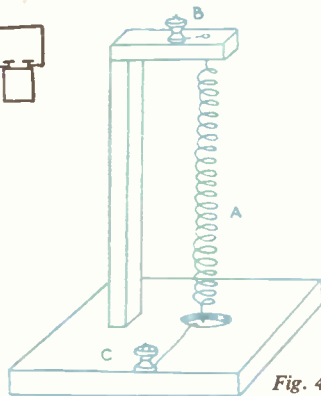

Fig. 4
parallel conductors carrying an electric current in the same direction attract each other is shown in Fig. 4. The spiral (A) is made by wrapping about a yard of No. 22 D.C.C. wire round a piece of $\frac{1}{4}$ in. dowelling. One end of the spiral is connected to the terminal (B), and the other end just touches the surface of a little mercury placed in a small hole made in